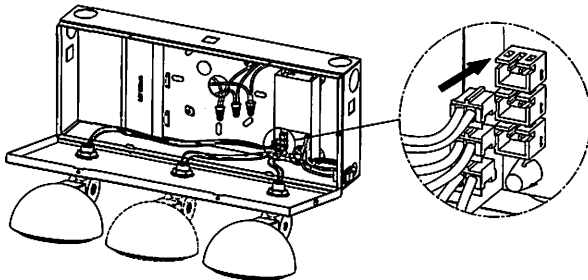

Fig 4
6. Snap lamp heads connector on the PCB board (see Fig 4).